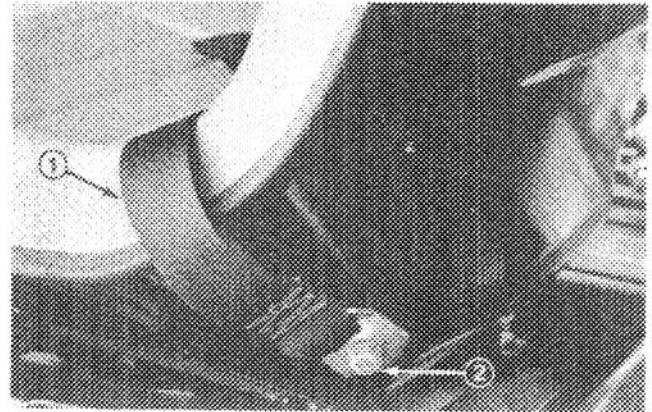

Figure 14
1. Install seat belt to holes in back of seat with (2) 7/16 x 1" lg. bolts and lockwashers (Fig. 14). Tighten securely.